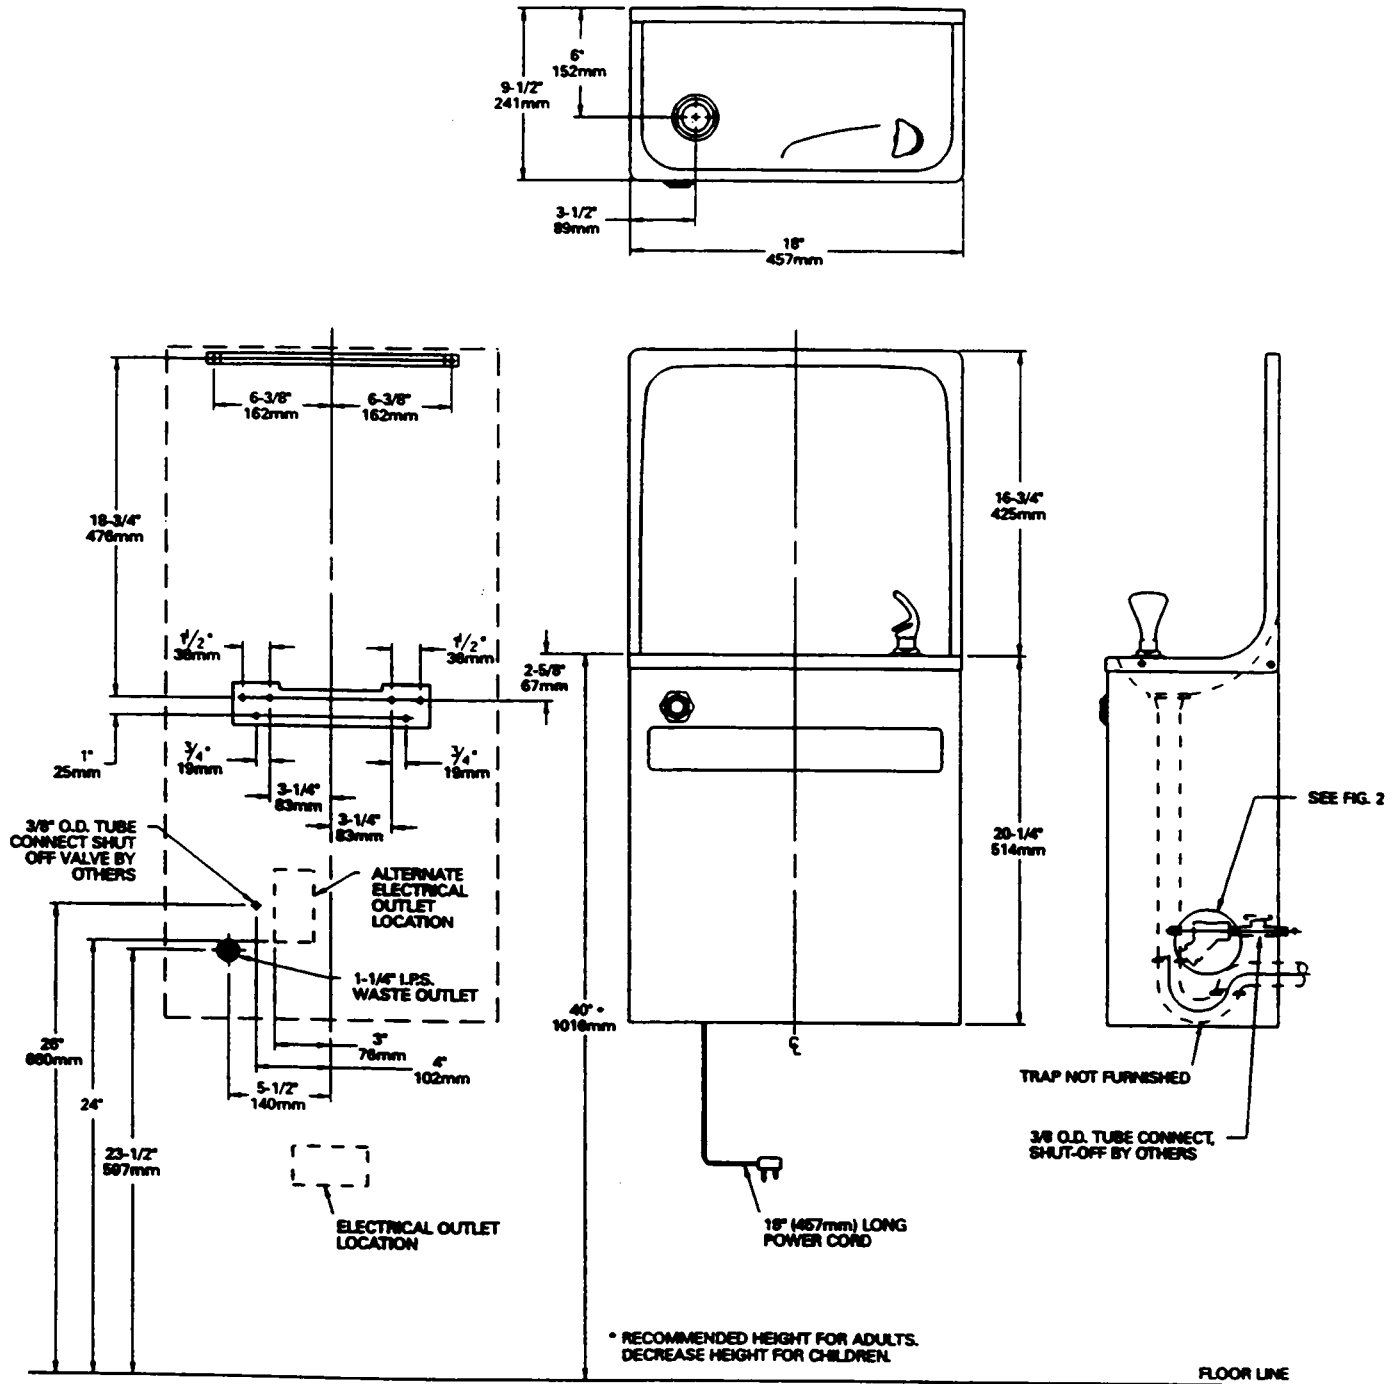

FIG. 1
- 2). Mount the hanger brackets and trap as shown in Figure 1.